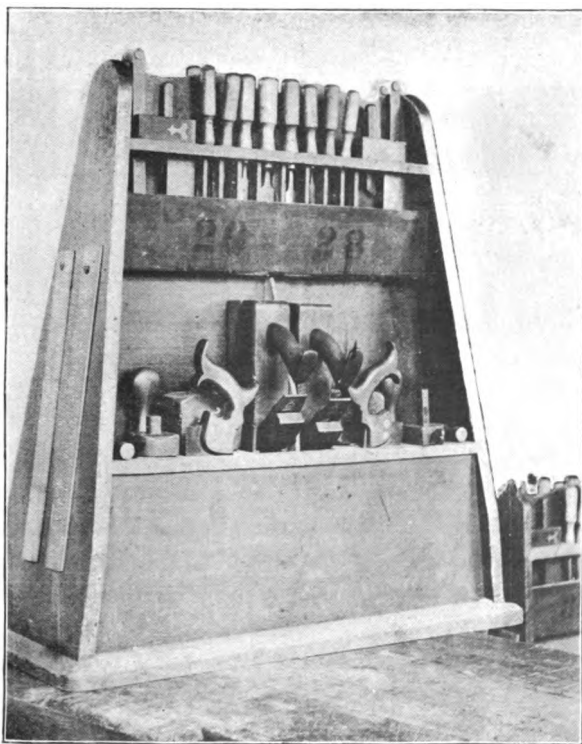
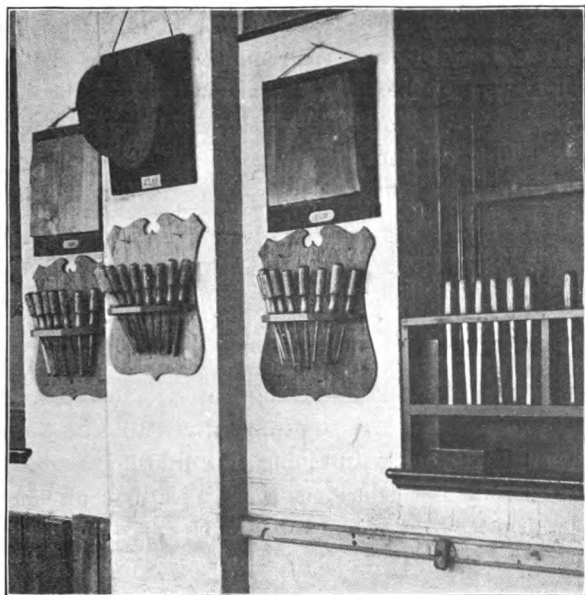

FIG. 151.
FIG. 152.
*Tool Racks.*—These should be constructed to hold all the tools needed by each boy, and nothing could be better than the style adopted generally at the London School Board centres (Fig. 151). A rack of this description is far away in front of drawers, the tools being kept in much better condition, always in full view, and very easy to get at. The various tools which are not in such general use should be arranged on the lines shown in the photographs (Figs. 152 and 153), and a very nice effect can be given to the room by a display similar to these. The method of displaying tools has great advantages over a cupboard, for if occasionally the tools are rubbed over with a vaseline rag they will not rust, they are always accessible, and a glance round the room will at once show if there are any missing.